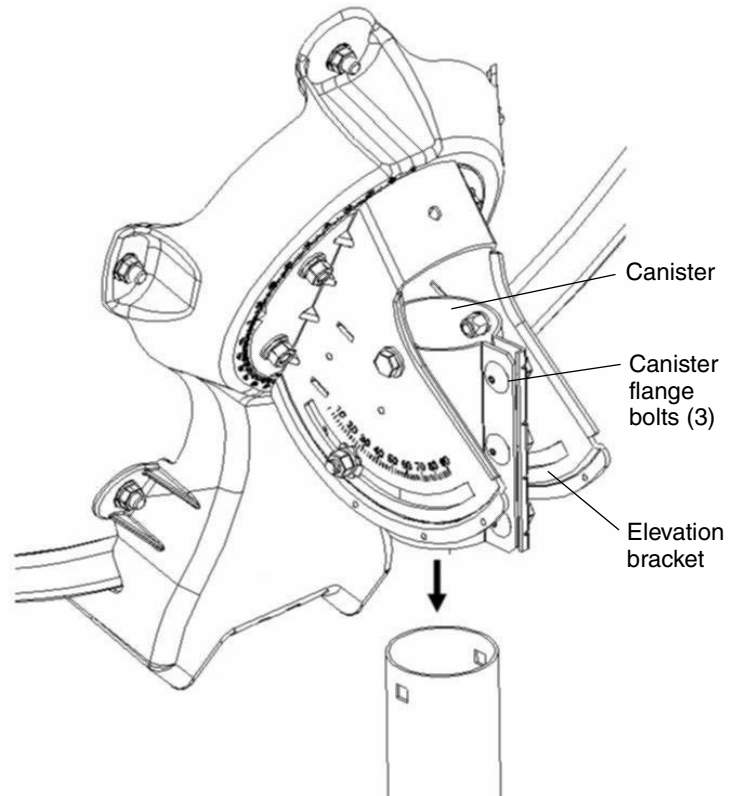

Figure 21: Sliding the antenna assembly onto the mast
2. Slide the canister onto the top of the mast as shown in Figure 21.